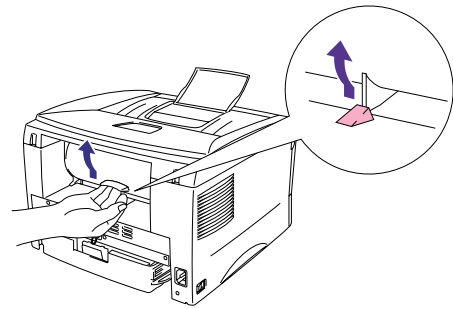

Fig. 2-8
- (1) Select the manual feed mode in the printer driver.
- (2) Lift up the rear cover at the rear of the printer. (Fig. 2-8)
- (3) Send the print data to the printer.
- (4) Follow Steps (3) to (4) in the previous page to load paper.
- (5) Close the rear cover of the printer.